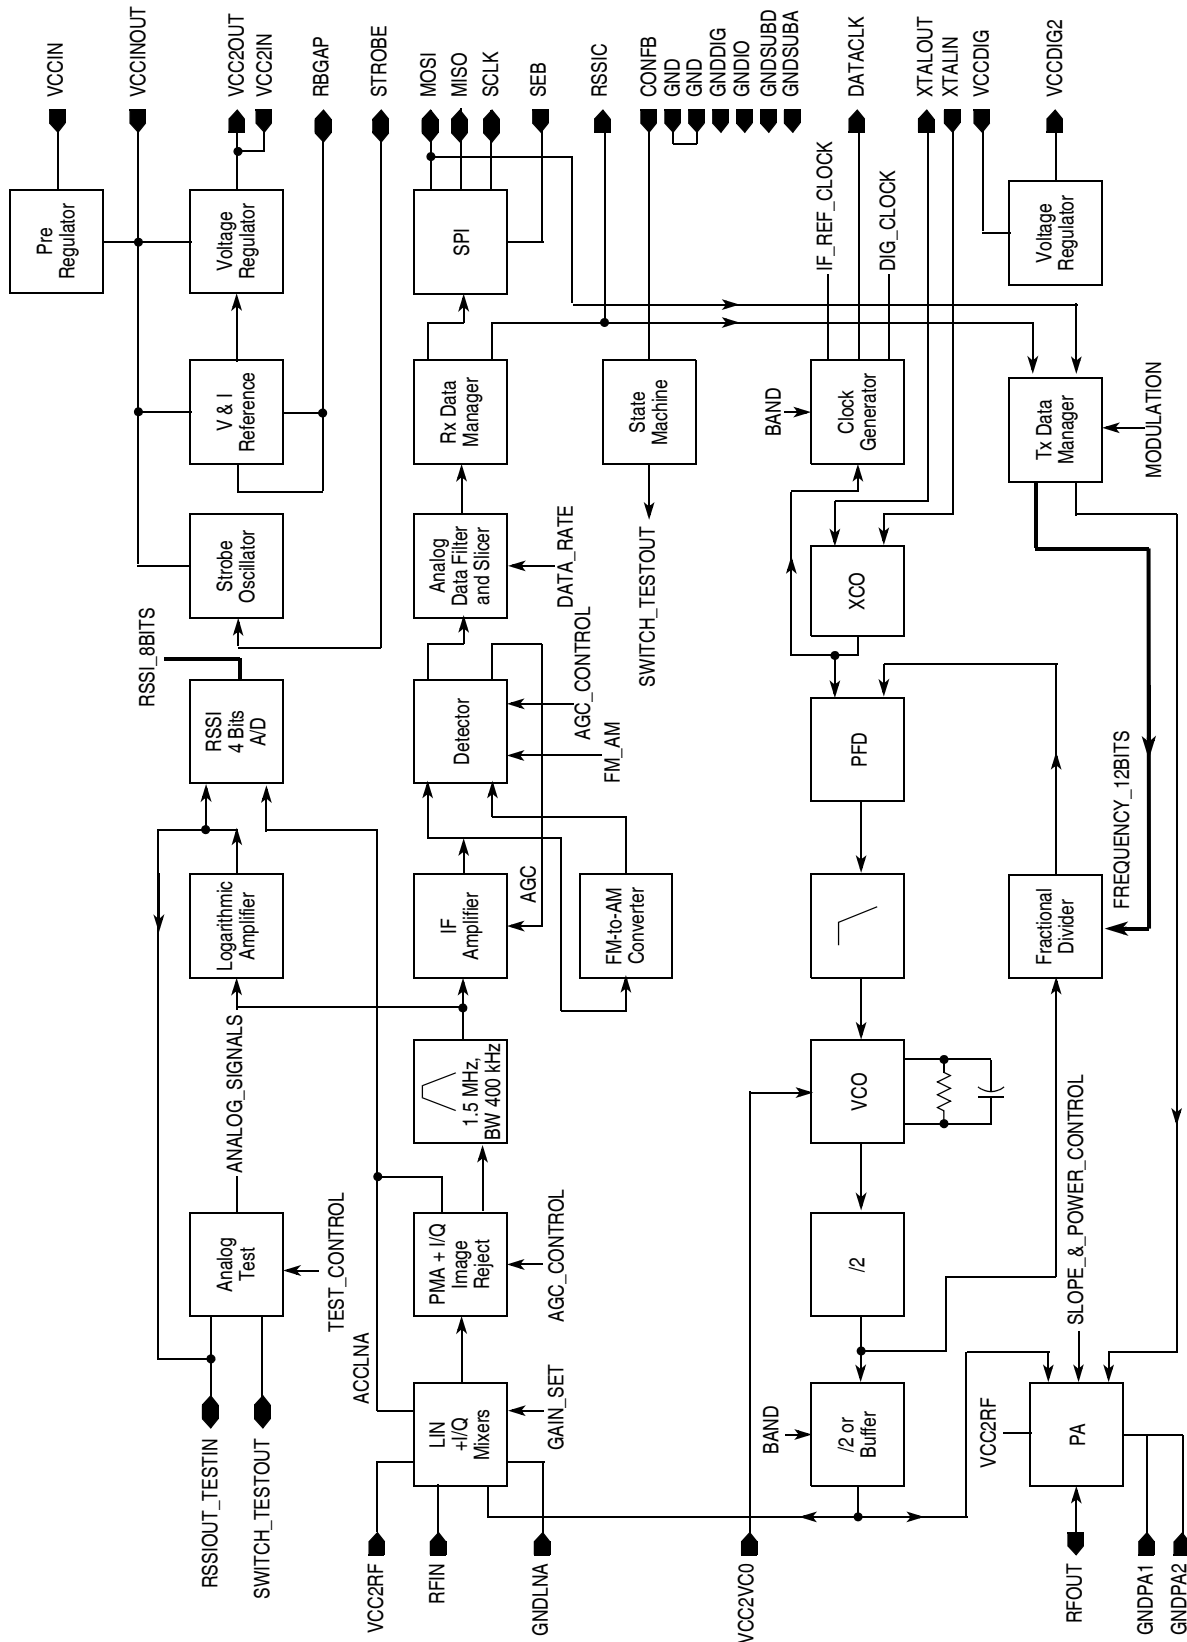

Figure 1. Block Diagram
The receiver is based on a superheterodyne architecture with an intermediate frequency (IF) of 1.5 MHz (see Figure 1). Its input is connected to the RFIN pin. Frequency down conversion is done by a high-side